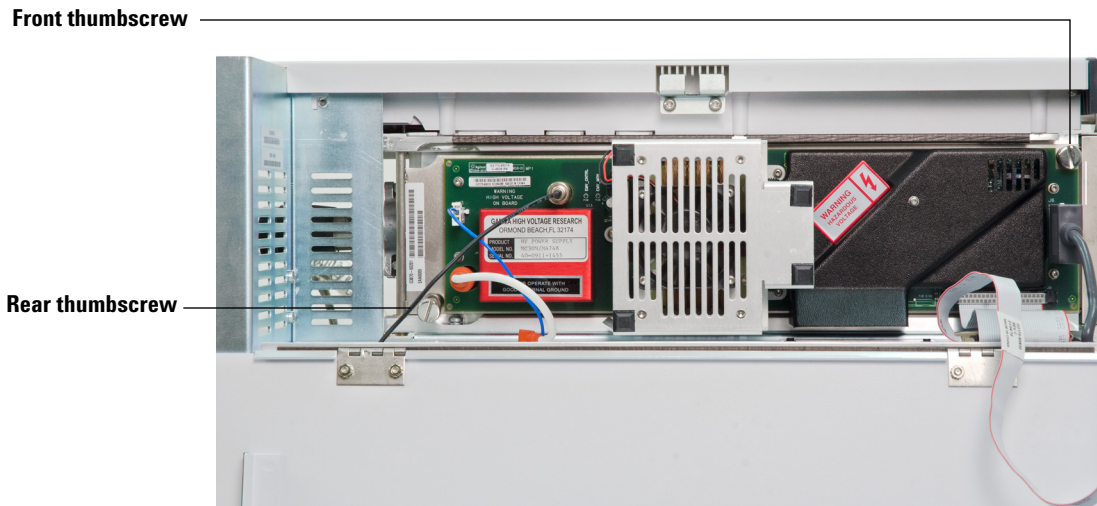

Figure 6 Side plate thumbscrews
- 8 Finger-tighten the side plate thumbscrews (See Figure 6 on page 97).